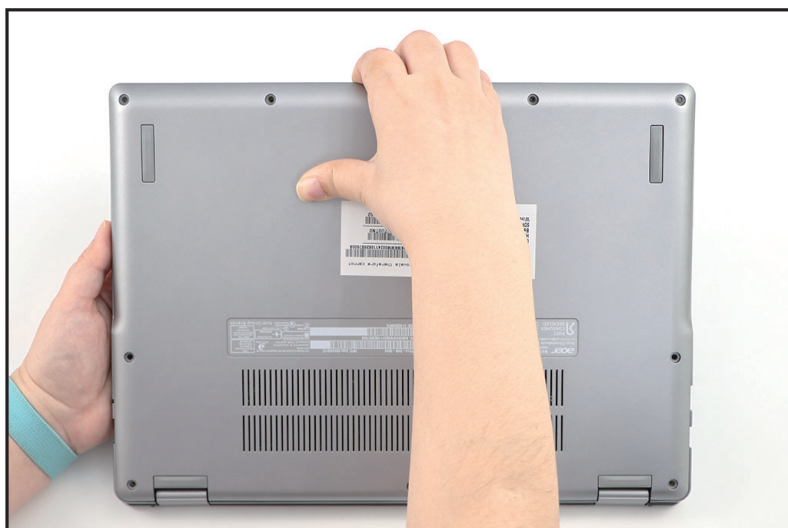

Figure 1-4. Base Cover Removal
3. Continue releasing the remaining latches. Then remove the base cover (Figure 1-4).